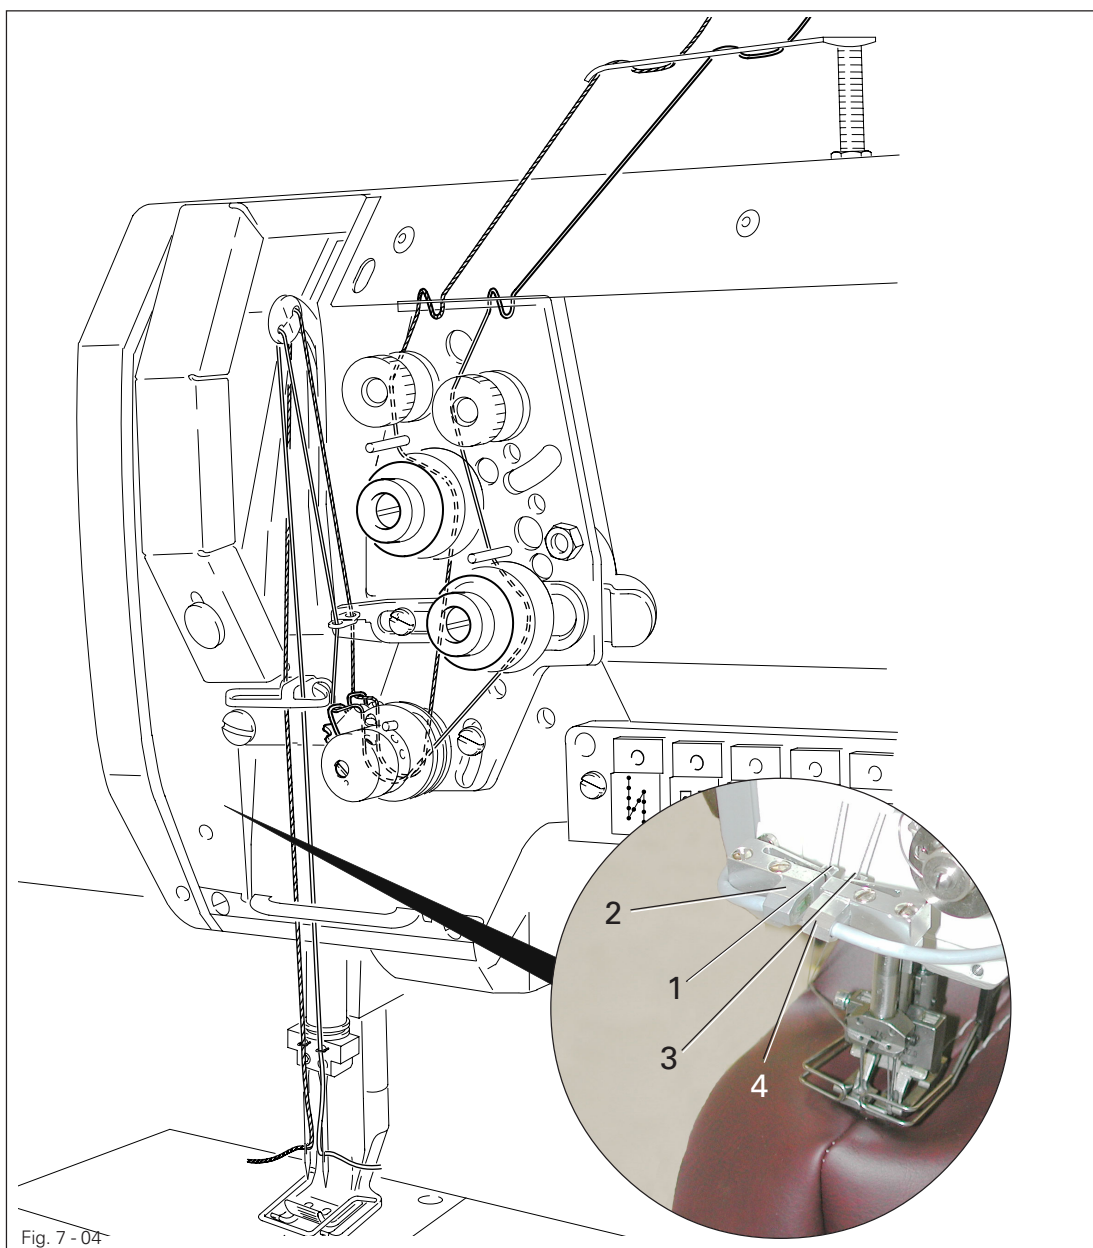

Fig. 7-04
- Thread the needle thread as shown in Fig. 7-04.